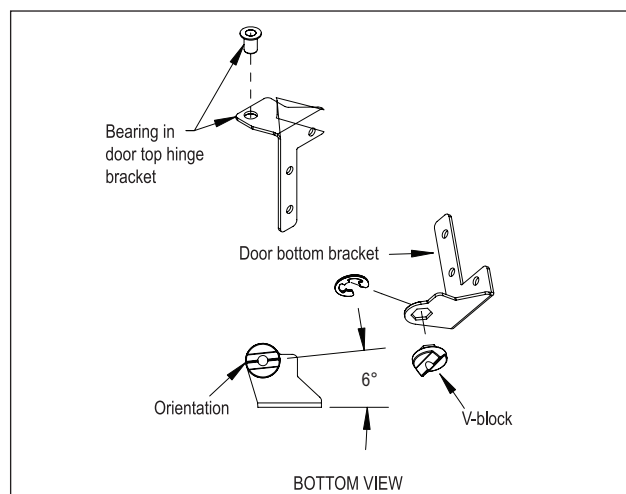

Figure 8: Bearing and V-Block
8. Insert bearing into door top hinge bracket (Figure 8).
9. Insert V-block into door bottom hinge bracket and attach with e-clip (Figure 8). Note the orientation of the V-block.